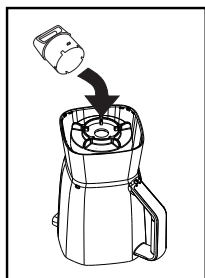

Fig. 17
4. Turn the black threaded jar bottom down and place it over the small opening of the jar and the bottom of the blade. Turn clockwise to tighten (Fig. 17). Be sure the black threaded jar bottom is locked securely to the jar before using.